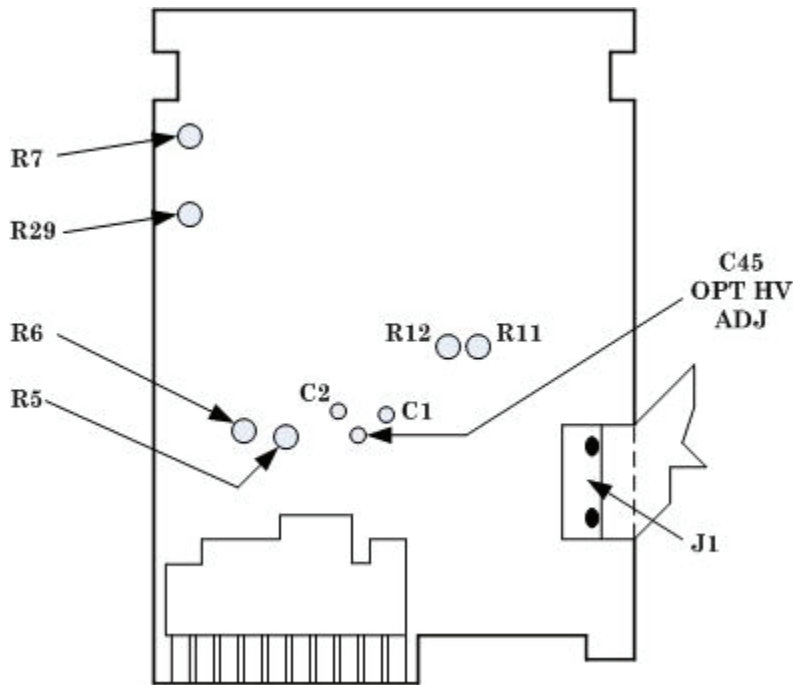

Figure 1. Adjustment locations.
- (1) Adjust R12 (fig. 1) for a TI indication of 190.00 (R).
- (2) Adjust R11 (fig. 1) for a TI indication of 1.9000 (R).
- (3) Adjust R5 (fig. 1) for a TI indication of 190.00 (R).
- (4) Adjust R6 (fig. 1) for a TI indication of 1000.0 (R).
- (1) Set TI range to 2 and calibrator for a 1.9 V, 45 Hz output. Adjust R7 (fig. 1) for a TI indication of 1.9000 (± 5 digits) (R).
- (2) Set calibrator for a 100 mV, 45 Hz output. Adjust R29 (fig. 1) for a TI indication of 0.1000 (± 1 digit) (R).
- (3) Repeat (1) and (2) above until no further adjustments are required.
- (4) Set TI range to **20** and calibrator for a 19 V, 10 kHz output. Adjust C1 (fig. 1) for a TI indication of 19.000 (± 10 digits) (R).
- (5) Set TI range to **200** and calibrator for a 100 V, 10 kHz output. Adjust C2 (fig. 1) for a TI indication of 100.00 (± 5 digits) (R).
- (6) Repeat (4) and (5) above until no further adjustments are required.
(7) Set TI range to **750 V AC** and calibrator for a 750 V, 10 kHz output. Adjust C45 OPT HV ADJ (fig. 1) for a TI indication of 750.0 (± 10 digits) (R).
(8) Repeat (4), (5), and (7) above for the best compromise or until no further adjustments are required.